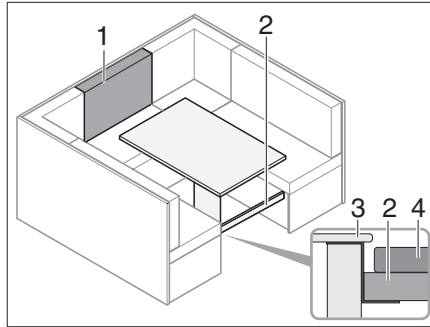

Fig. 196 Prior to conversion
- Insert the cross brace (Fig. 196,2) under the chest lid (Fig. 196,3).
- Push the cross brace (Fig. 196,2) under the table, (Fig. 196,4) so that it is supported.
- Lay the back cushion (Fig. 196,1) before the additional cushion on the table.